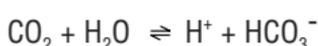

**Figure 3**
**Figure 3** shows the time response of the carbon dioxide electrode to step changes in carbon dioxide concentration.